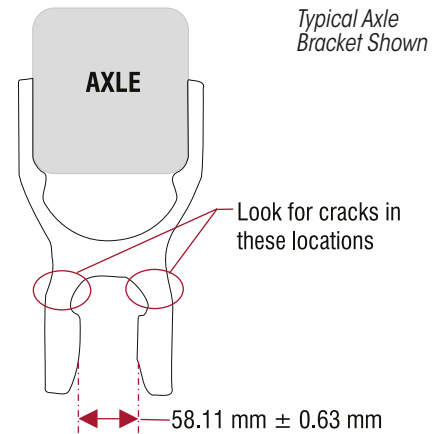
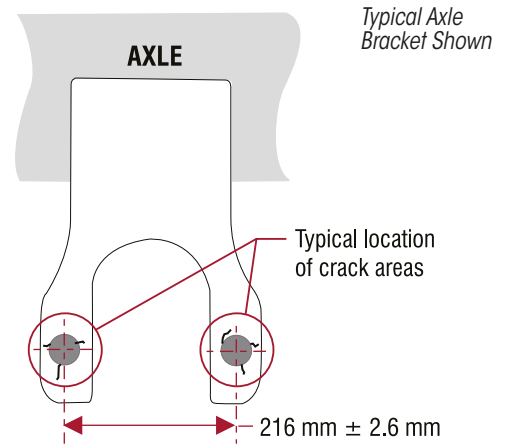

Figure 9: Axle Bracket Side View
Figure 10: Axle Bracket Front/Rear View
- **Visual Inspection** — When inspecting the equalising beam end connection also inspect the axle brackets for damage or cracks, refer Figure 9. Any axle bracket that is found damaged or cracked must be repaired or replaced.
- Inspect the axle brackets for damage or cracks in the locations shown in Figure 9 and Figure 10. Any axle bracket that is found damaged or cracked must be repaired or replaced.
- Measure the distance between the axle bracket legs for correct width, refer to Figure 9 and Figure 10 for measurement location and dimensions. An axle bracket outside of the measurement range must be repaired or replaced.